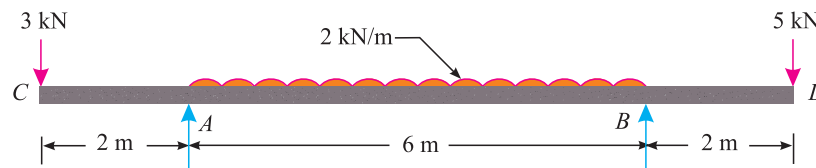

Fig. 13.49
3. A beam 10 m long carries load as shown in Fig. 13.49.